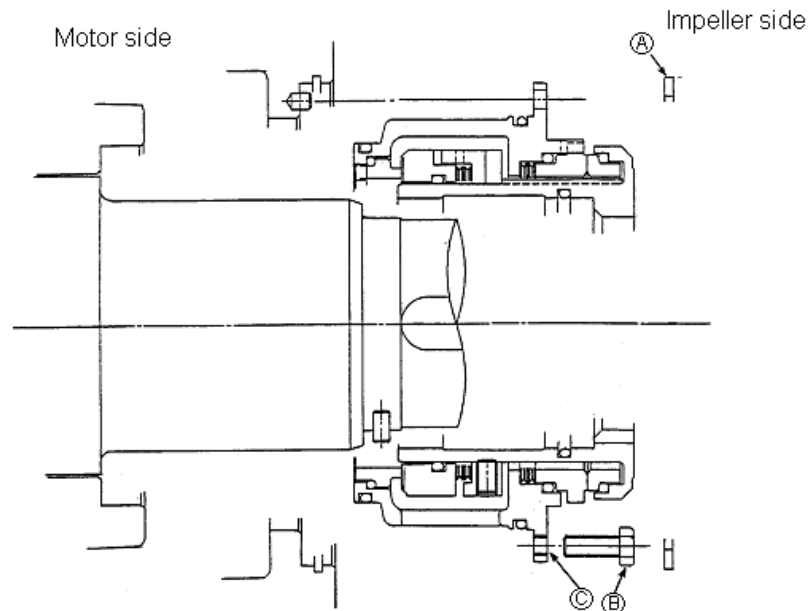

Fig. 24
- (3) Mechanical seal replacement (Refer to Fig. 24)